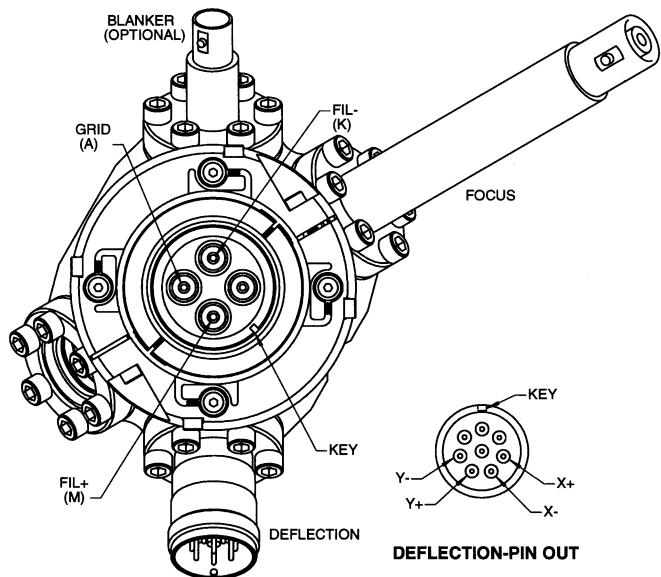

Fig. 6.6-8 EGG-3101 pinout as seen from the top of the Flange Multiplexer
6. With an ohmmeter, check the Focus and Deflection connectors to see that the leads are not shorted to each other or any other gun elements. (See pin out in Fig. 6.6-8.)